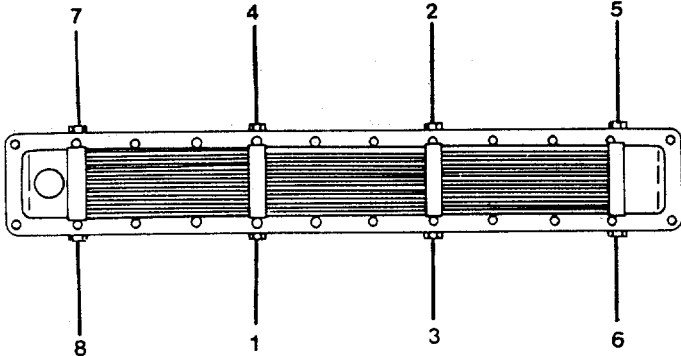

FIGURE 2-47. Housing to Core Capscrew Torque Sequence.
- c. Install the core (35) in the housing (32).
- d. Install eight assembled washer screws (35) holding the core to the housing (32).
- e. Tighten screws in the sequence shown in Figure 2-47 to the following values: